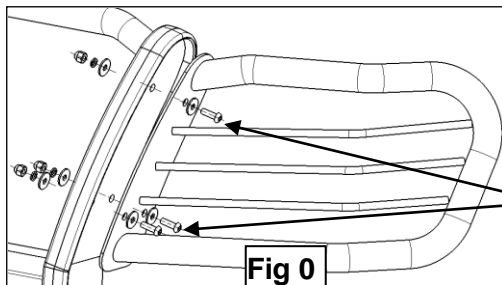

Fig 0
- Please install the wings to the grille guard. **(Figure 0)**.